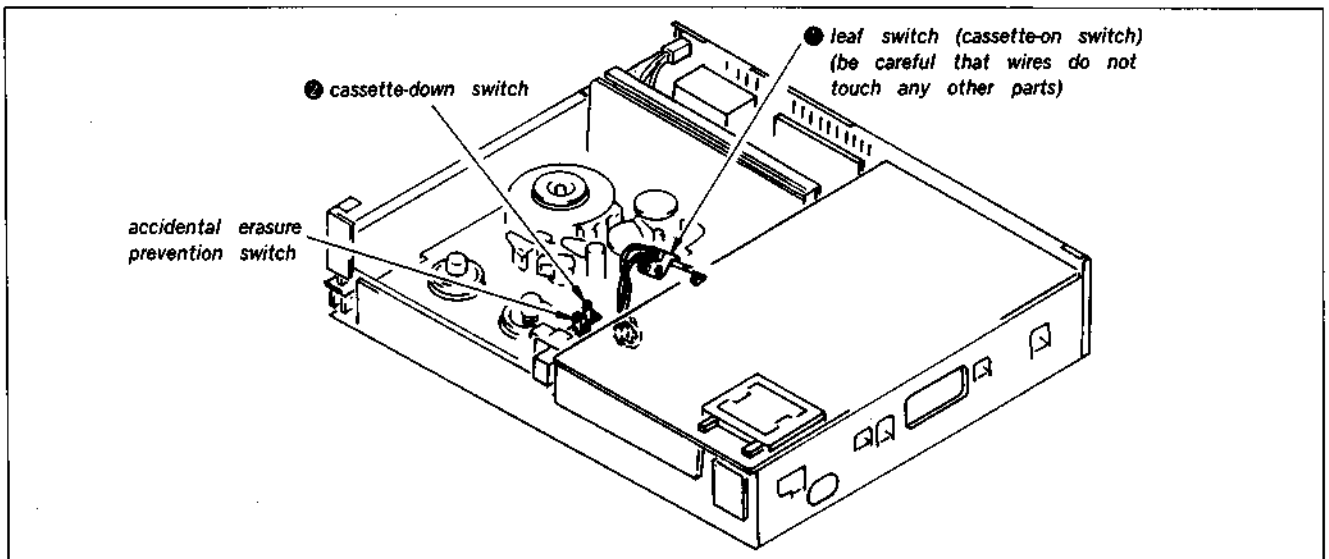

Fig. 1-1. How to put the unit into Threading completed mode when the FL cassette compartment in removed.
- 1) Connect ordinary screwdriver to short the leaf switch ● (cassette-on switch shown in Fig.1-1.).